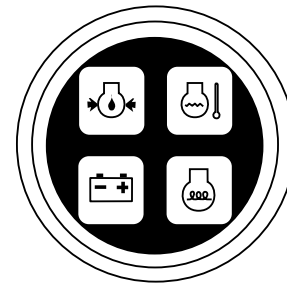

Figure 11. Oil and Charge Indicator Lights
5. Turn the ignition key clockwise to the (start) position. The oil and charge indicator lights, (Figure 11) should be on.